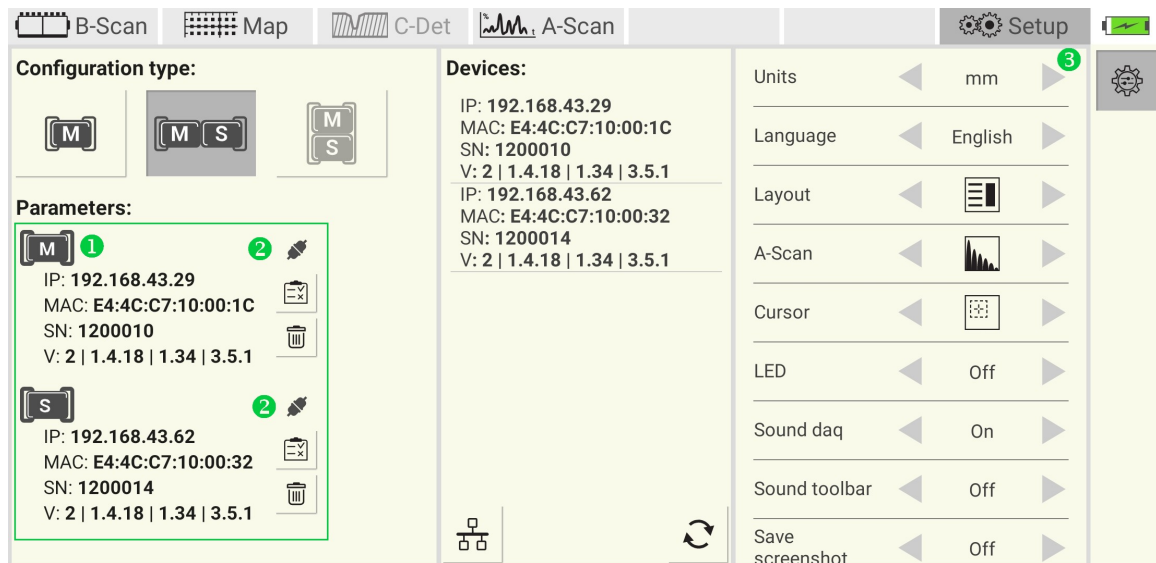

Figure 24: A1040 MIRA 3D PRO connection
After successful connection the panel ① shows parameters of the master and the slave devices. The indicator ② changes from  to . The battery indicator ③ changes its status from disconnected  to power, Figure 24.